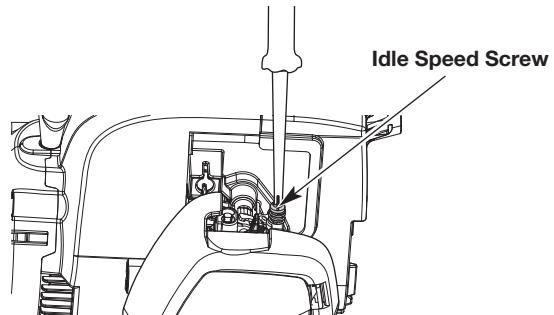

Fig. 18
- If the engine stops, use a small Phillips screwdriver to turn the idle speed screw clockwise, 1/8 of a turn at a time (as needed) until the engine idles smoothly (Fig. 18).
- If the engine idles too quickly, turn the idle speed screw counterclockwise, 1/8 of a turn at a time (as needed) to reduce the idle speed (Fig. 18).